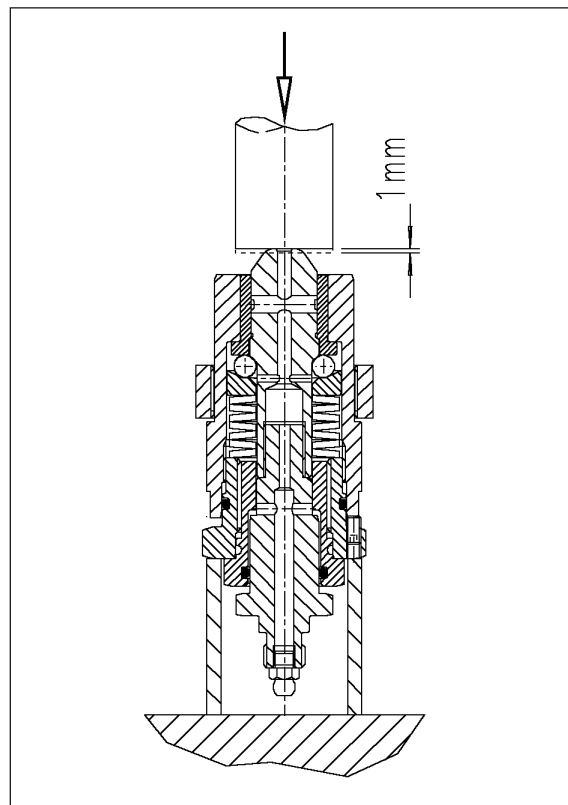

Fig.3 Preparing a module for fitting
8.5) Take the module and place under a hand press, supported on the adjuster, with the plunger uppermost (see fig. 3).